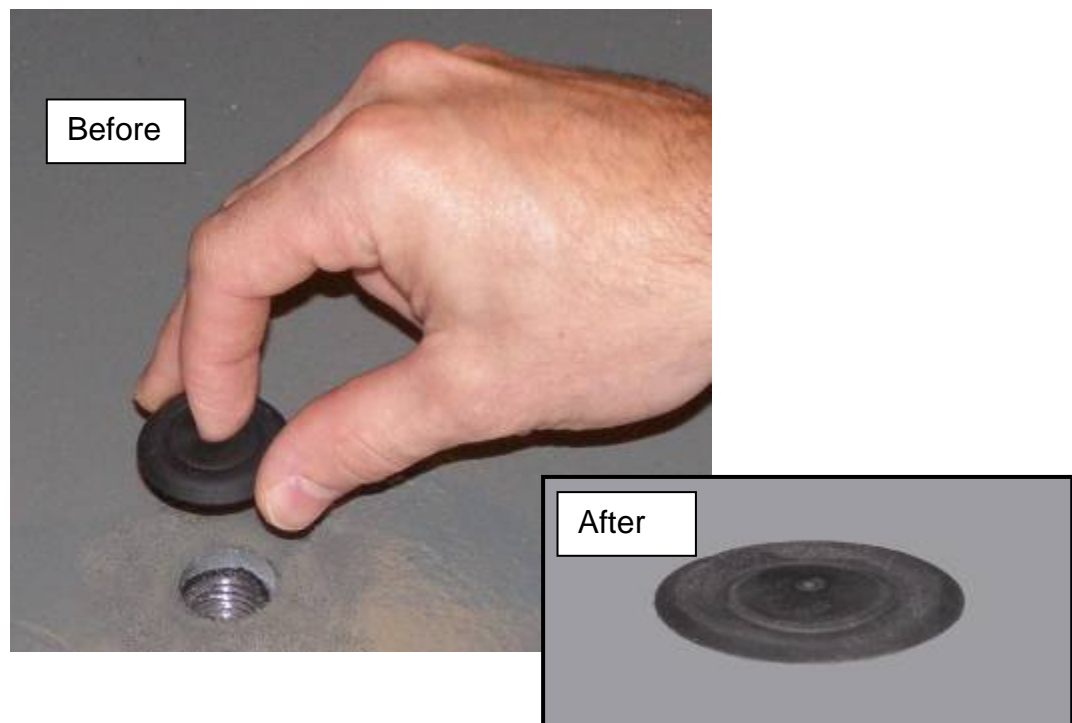

Figure 36 Plugging Holes in Deck
3. Install the plastic plugs provided in all lifting eye holes (**Figure 36**).